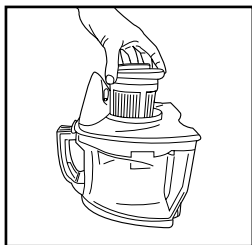

Fig.6/3
1. Pull out the central filter (Fig.6/3).